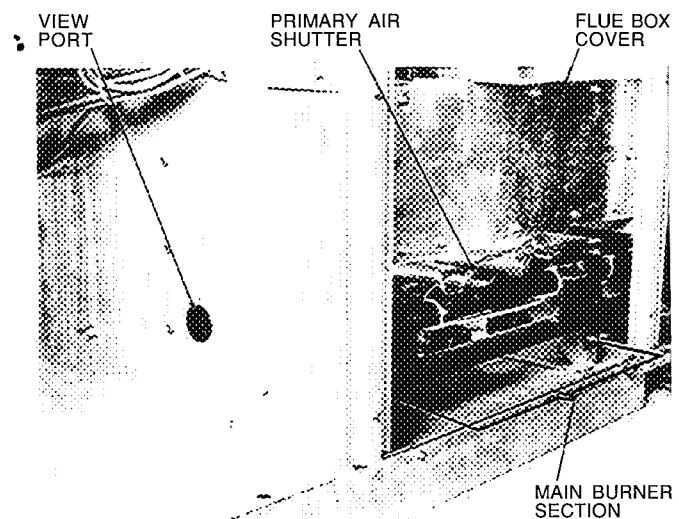

Fig. 37 — Typical Heating Section
5. With a small screwdriver, turn adjustment screw until flame fully engulfs sensor. Flame can be observed through view port (Fig. 37).
4. Loosen primary air shutter (Fig. 37) and adjust to a minimum opening of $\frac{3}{8}$ inch.